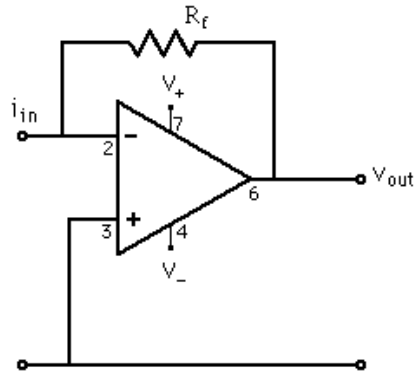

Figure 1: Op-amp circuit: current to voltage converter.
2. As mentioned above, you will use an op-amp circuit to measure current. Show that for the circuit pictured in Fig. 1 the current is given by $i_{in} = -V_{out}/R_f$.